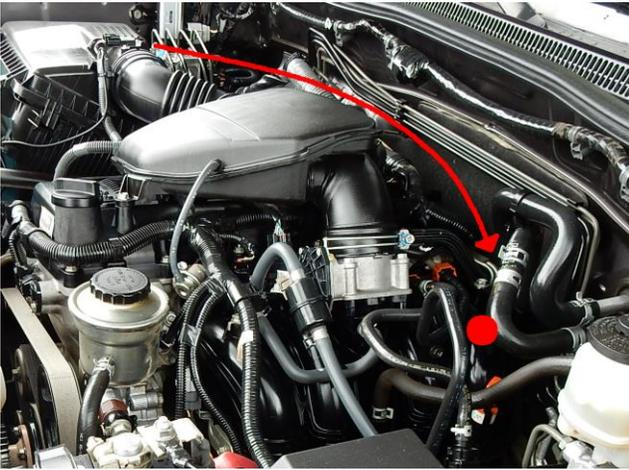
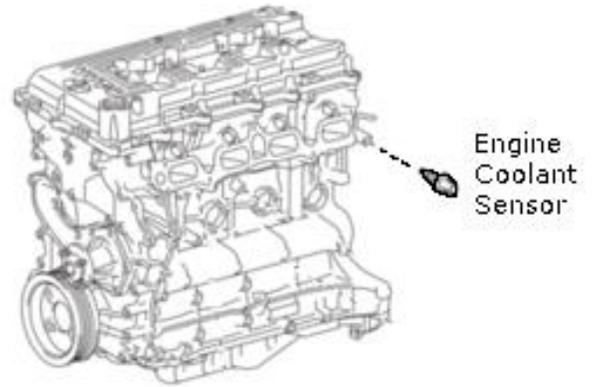

Figure 2 - ECT Sensor Location
Figure 3 - ECT Harness Routing and ECT Sensor Location
5) Route the bypass module's harness with the grey connectors to the other side of the by going behind the intake tube or along the main engine wiring harness as shown in Figure 2 on the next page. This harness will connect in line with the ECT sensor the same way as was done for the MAF/IAT. The ECT sensor is located on the driver's side of the engine between the plastic intake runners and the engine firewall.
6) The red circle in Figure 2 and Figure 3 on the next page show the location of the ECT sensor as if you were looking straight through the intake runners and hoses to the actual engine block. Drop the ECT sensor harness down behind the engine at the location shown by the red arrow. There is not enough clearance between the firewall to reach the sensor from the top so it must be accessed from underneath the vehicle.